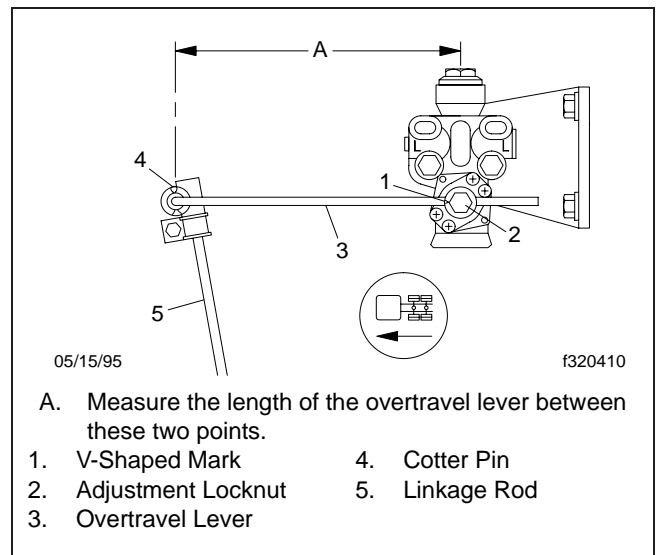

Fig. 5, AirLiner Overtravel Lever and Linkage Rod Measurement
3. Check the length of the overtravel lever between its pivot points. See **Fig. 5**, Ref. A. If the vehicle is equipped with an adjustable leveling valve, the length should be 8 inches (203 mm). If the length is incorrect, See **Group 32** of the *Condor® Workshop Manual* for adjustment procedures.